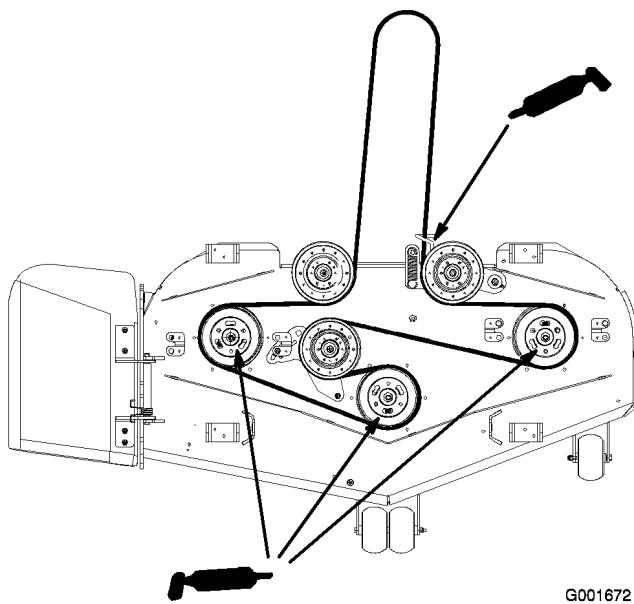

Figure 31
- Grease the three spindle bearings under the pulleys until grease comes out the lower seals (Figure 31).
- Grease the idler arm on the mower deck (Figure 31).
- Grease the fittings on the push arms (Figure 31).